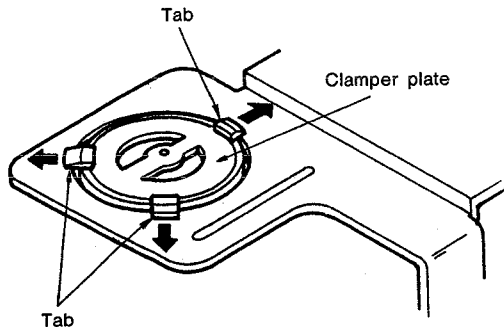

Fig. 6
3. Removing the Clamper (Fig. 6)